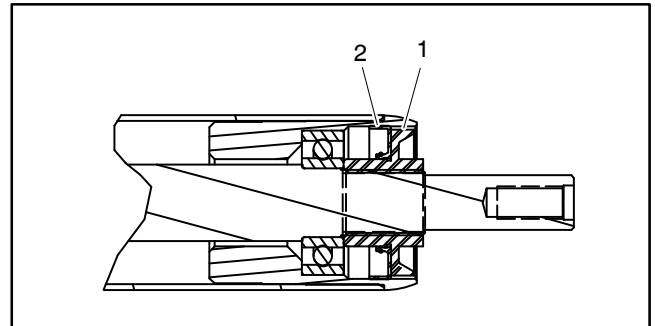

Figure 40
7. Install a nut with seal onto each end of the roller shaft. Tighten nuts until they bottom against bearings (Fig. 40). Remove nuts from roller shaft.